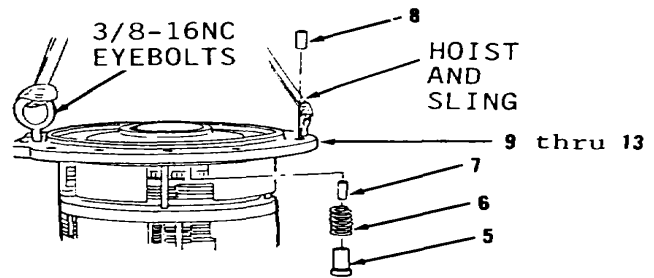
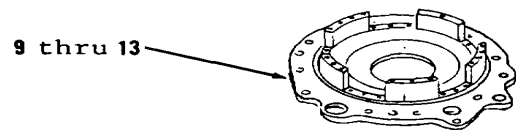

Figure 14-40.
Figure 14-41.
3. Using hoist and sling, lift housing (13) slightly to remove four plungers (5), springs (6) and dowels (7, Figure 14-40).
4. Remove dowel (8) from housing (13).
5. Using hoist and sling, remove items 9 thru 13 as an assembly (Figure 14-41) and position upside down and remove hoist and sling and eyebolt.